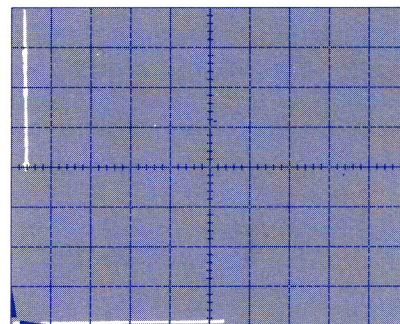

Figure 2-2. Moving spot back to horizontal center of screen.
- d) Turn VARIABLE COLLECTOR % lightly until spot is at center horizontal graticule line. See Figure 2-2. **8**